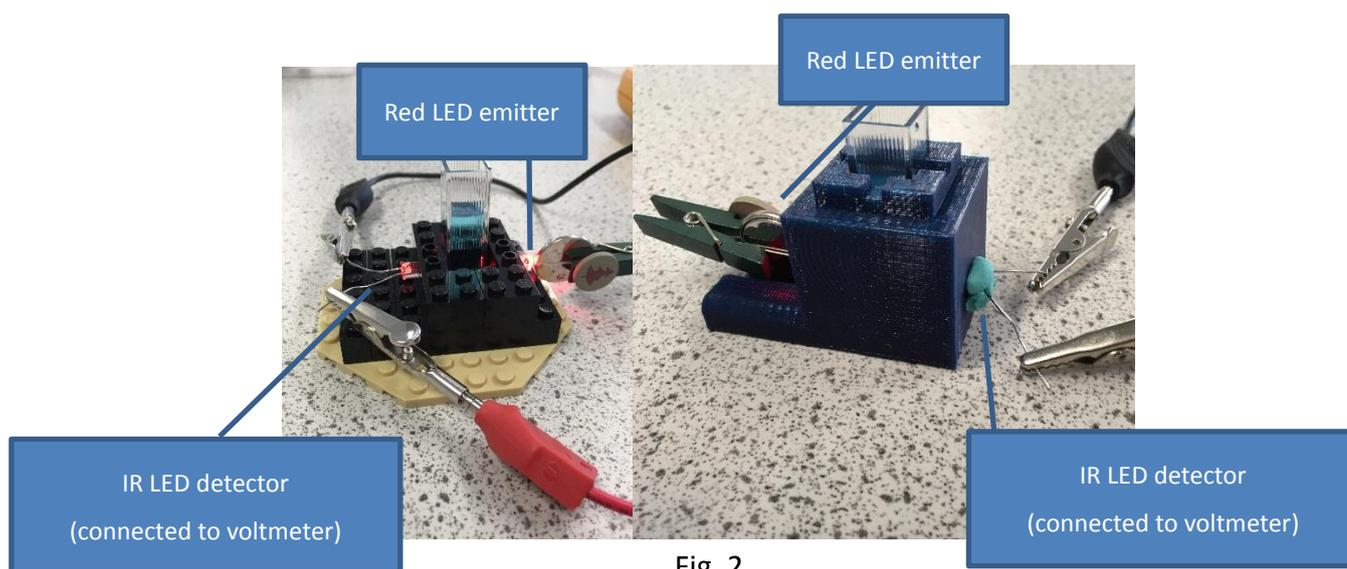

Fig. 2
3. Place the cuvette in the sample compartment of the colorimeter (see Fig. 2) and record the voltmeter reading.